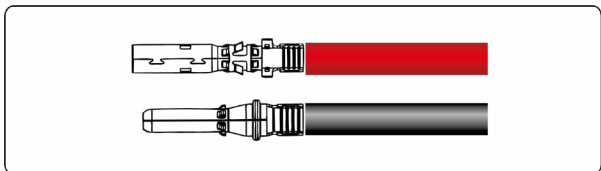

Figure 5.11 Crimping a metal connector
Step 2 Insert the exposed areas of the positive and negative power cables into the metal terminals of the positive and negative connectors respectively and crimp them using a crimping tool, as shown in **Figure 5.11**.